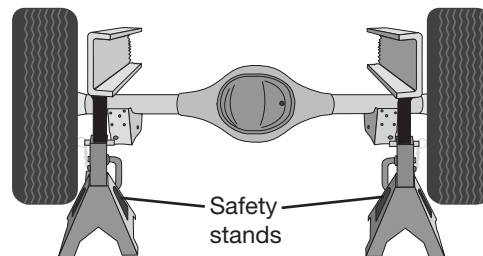

fig. 2
1. Raise the vehicle and support the axle with jack stands, setting the jack stands as wide as possible on the axle (Fig. 2).